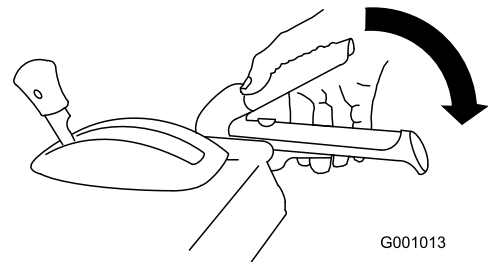

Figure 36
1. To engage the auger/impeller drive, squeeze the right (auger/impeller) lever to the handgrip (Figure 36).